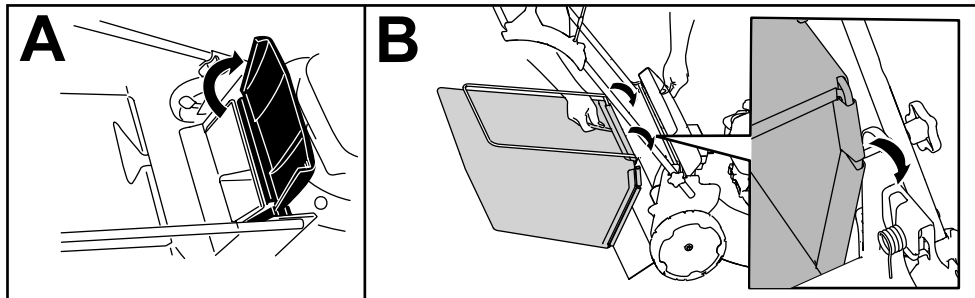

Figure 14
1. Raise and hold up the rear deflector (A of Figure 14).
2. Install the grass bag, ensuring that the pins on the bag rest in the slots on the handle bracket (B of Figure 14).